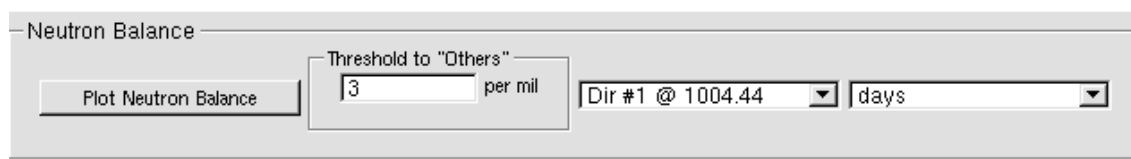
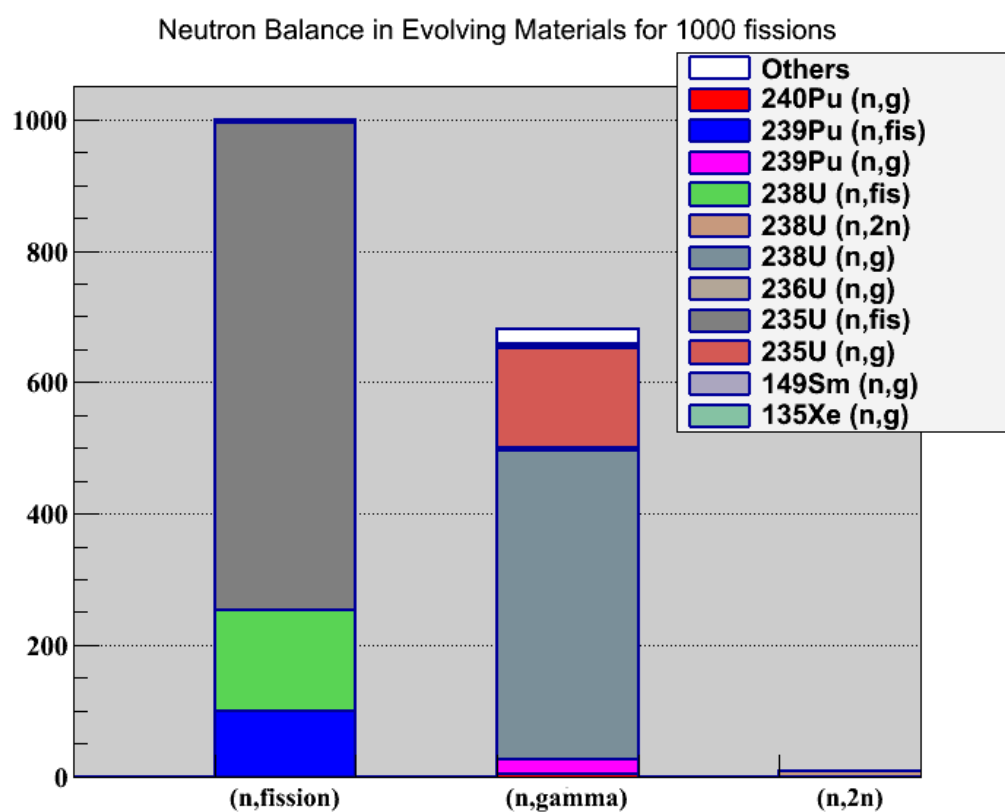

Figure 8.2: Neutron Balance window. In this example, the reaction rates less than 3 per mil are grouped in the "Others" category.
Figure 8.3: Neutron balance plot.
- In the Reaction Rate Tab, the “FP” and “Sum of Selected” check boxes allow users to plot total reaction rate of fission products and the sum of selected reaction rates respectively. The generated power can also be obtained using the “Power” check box. Power results are returned in the terminal when the graph is refreshed. The “(Un)Select Fissil” button selects (or unselects) all available fission reactions automatically. Note that released energy per fission values (Q_ values) are automatically selected according to the transport code previously used (DRAGON, MCNP or Serpent). In this Tab, it is also possible to plot Neutron Balance normalized per 1000 fissions. Once the user has selected the wanted reaction rates (or all reaction rates for the fissile (“(Un)Select Fissile” button) or for all nuclei (“(Un)Select All” button), the neutron balance is plotted using histogram bars. The box “Threshold to Others” allow user to group all reaction rates less than the threshold (default 0.1 per mil) in a category named “Others” (see fig. 8.2 and fig 8.3). The “Dir” number is the number of the Dirname argument of MureGui and the number following the “@” character corresponds to the time at which the MC run is done (thus figure 8.2 corresponds to first Dirname at time $t=1004.44$ days where a MCNP run was performed)